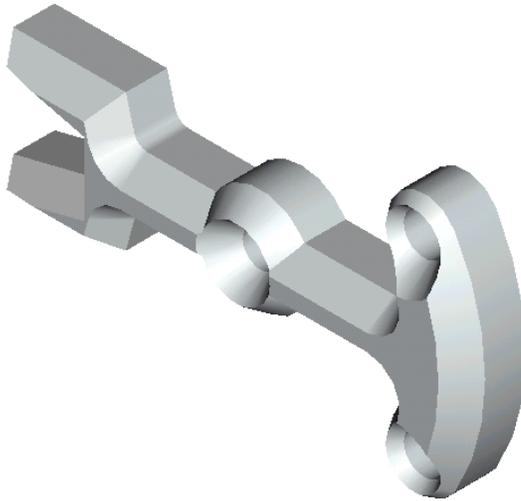

Figure 4-39 Isometric view of the solid model
6. Choose the **Isometric** button from the **Standard Views** toolbar. The isometric view of the resultant solid model is shown in Figure 4-39.